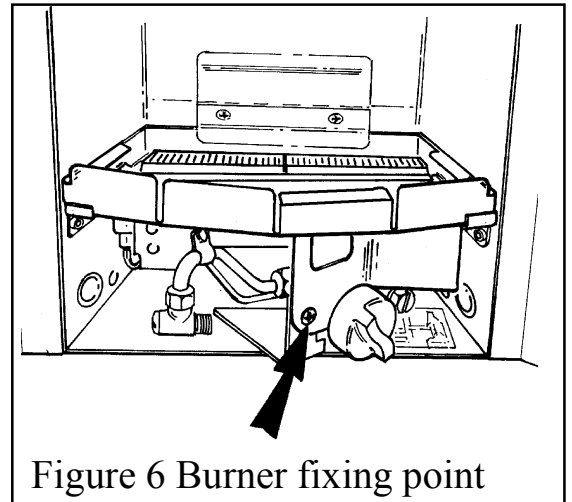

Figure 6 Burner fixing point
- The burner assembly is retained by one screw set in the front leg - See Figure 6. Remove the screw and carefully remove the burner assembly by lifting and sliding forward from the firebox. The burner is produced from a soft ceramic material and should be handled carefully.